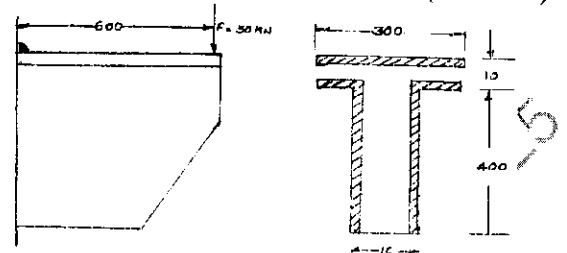

Fig.Q7(a)
- 7 a. An electronic connection is shown in Fig.Q7(a). Determine the size of weld, if maximum shear stress in weld is not to exceed 75 MPa. (10 Marks)